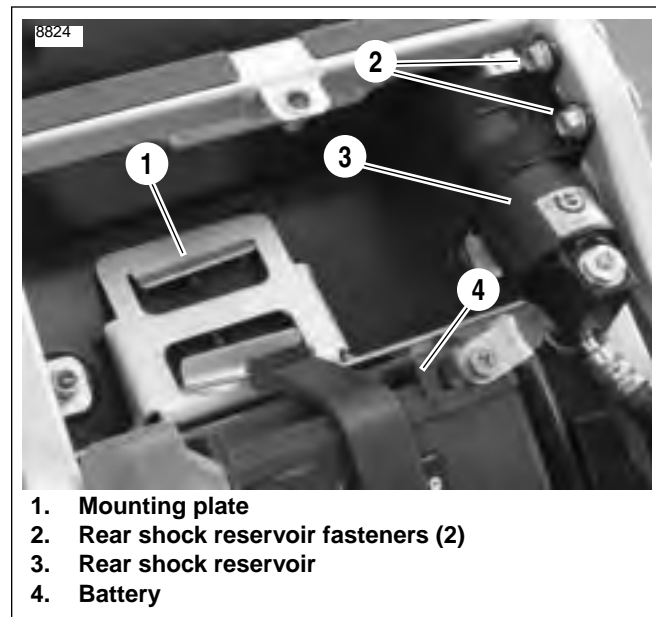

Figure 4-117. Carbon Canister Mounting
3. Label and disconnect the fuel tank vent hose (2) and canister vent hose (3) from the canister.
4. See Figure 4-117. Remove rear shock absorber reservoir fasteners (2). Move reservoir assembly away from canister.
5. Slide canister towards left side of vehicle to disengage from mounting plate (1).
1. See Figure 4-117. Slide canister into position on canister mounting plate (1).
2. Place rear shock reservoir assembly (3) into position.
3. See Figure 4-117. Install reservoir mounting fasteners (2). Tighten fasteners to 120-144 in-lbs (13.6-16.3 Nm).